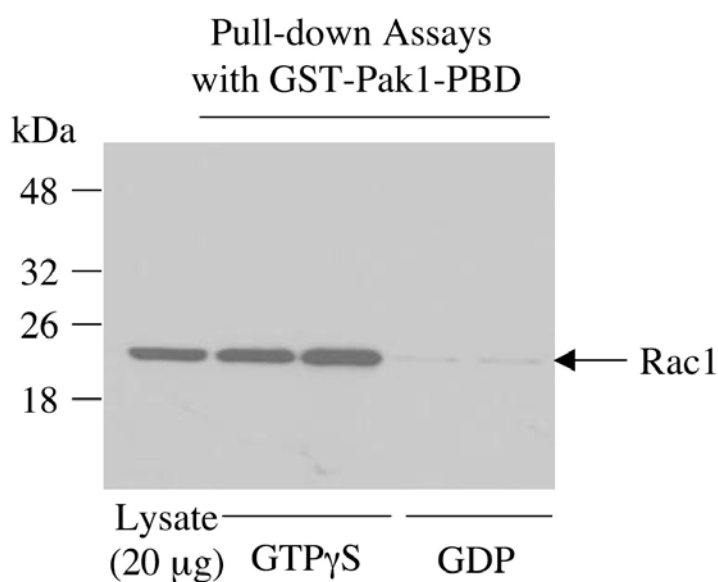

Figure 1. Western blot of control reactions.
- For best results when performing the Western blotting procedure, use Pierce[®] Goat Anti-Mouse IgG (H+L), Peroxidase Conjugated (Product No. 31430) and Thermo Scientific SuperSignal West Pico Chemiluminescent Substrate (Product No. 34080). (Refer to Additional Information section, Figure 1.) If similar products from other vendors are used, the Western blotting procedure must be optimized.
Rac1 is active when bound to GTP and is inactive when bound to GDP. Active Rac1 binds specifically to the p21-binding domain (PBD) of p21-activated protein kinase 1 (Pak1), leading its activation. Therefore, the PBD of Pak1 can be used as a probe to specifically isolate the active form of Rac1 (Figure 1).